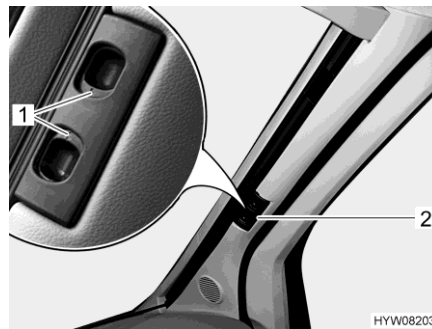

Fig. 18 Roman shade (windscreen)
- Press the release handles (Fig. 18,1) and hold them down.
- Use the handle (Fig. 18,2) to pull the Roman shade for the windscreen towards the centre of the window.
- Use the handle (Fig. 18,2) to pull the two halves of the Roman shade for the windscreen outwards as far as they will go.
- Let go of the release handles (Fig. 18,1) and let them engage.